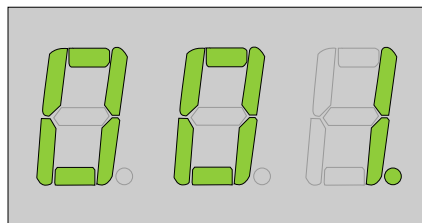

Figure 12: DMX Mode
- **DMX Mode:** When in DMX Mode the screen will display 3 Digitals or the last set DMX Address. **Figure 12**